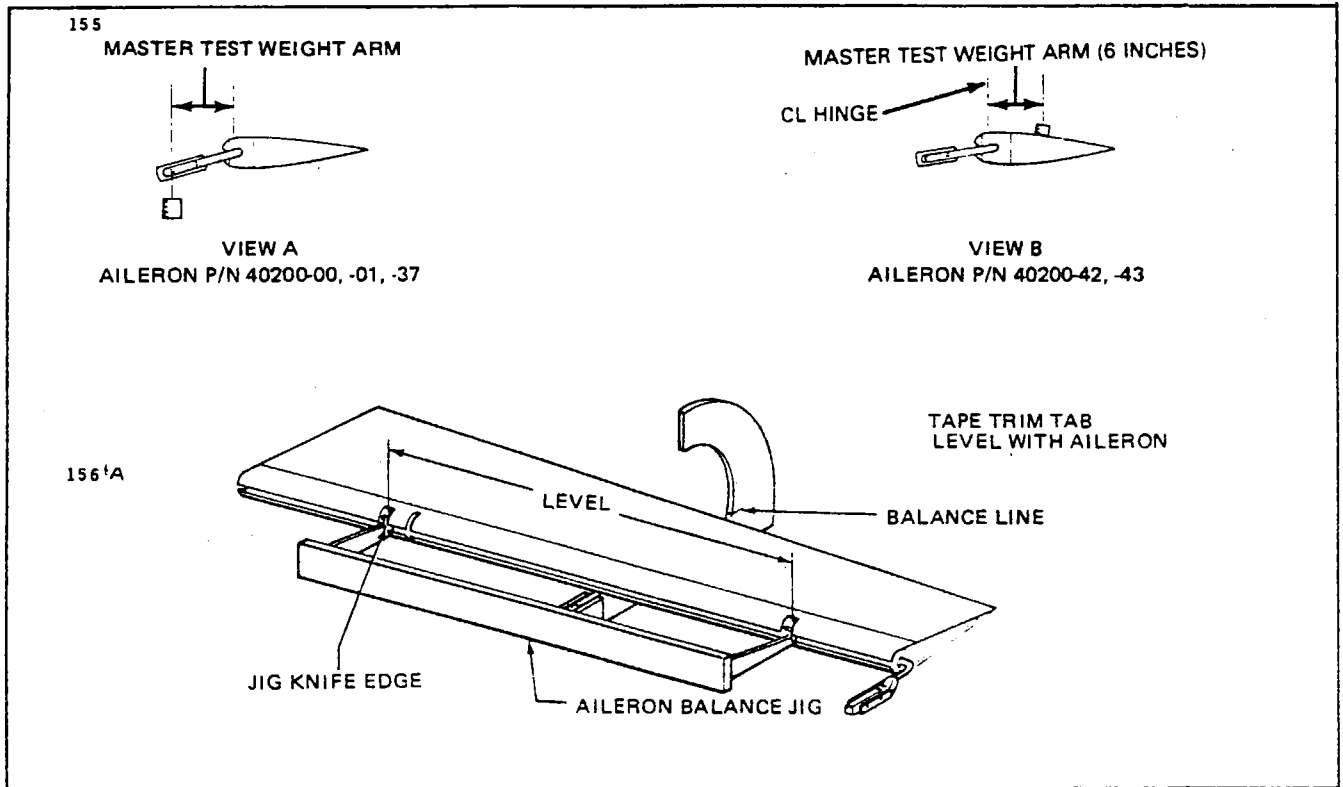

Figure 4-15. Aileron Balancing
4-86. BALANCING EQUIPMENT. The balancing must be done using a suitable tool configuration as shown in Figures 4-15 and 4-16.
- a. Remove the aileron from the aircraft and place it on a balance jig. (Refer to Paragraphs 4-15, 4-85, 4-86 and Figure 4-15, View A.)
- a. Remove the aileron from the aircraft and place it in a horizontal position on a balancing jig. (Refer to Paragraphs 4-15, 4-85, 4-86 and Figure 4-15, View B.)
- (c) Proceed to rebalance the aileron in accordance with Steps a, b and c, do not use more than four (4) trim weights P/N 54395-2.